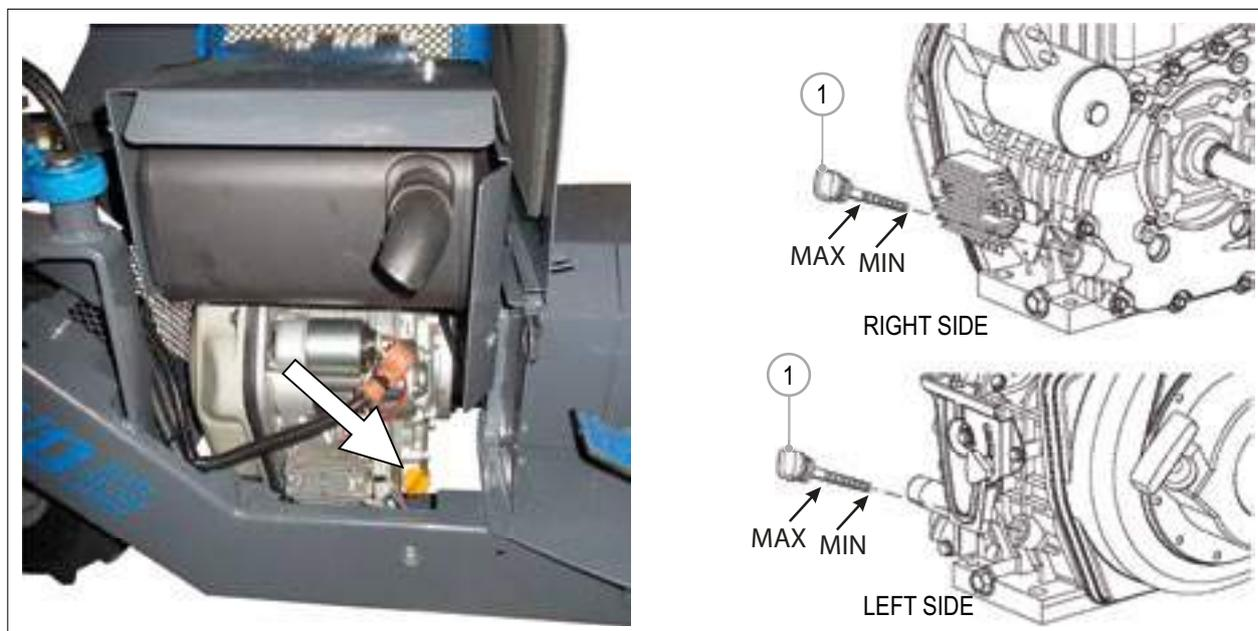

FIG. 25
- 4) Open the cap of the engine oil filler (FIG. 25 - Ref. 1)